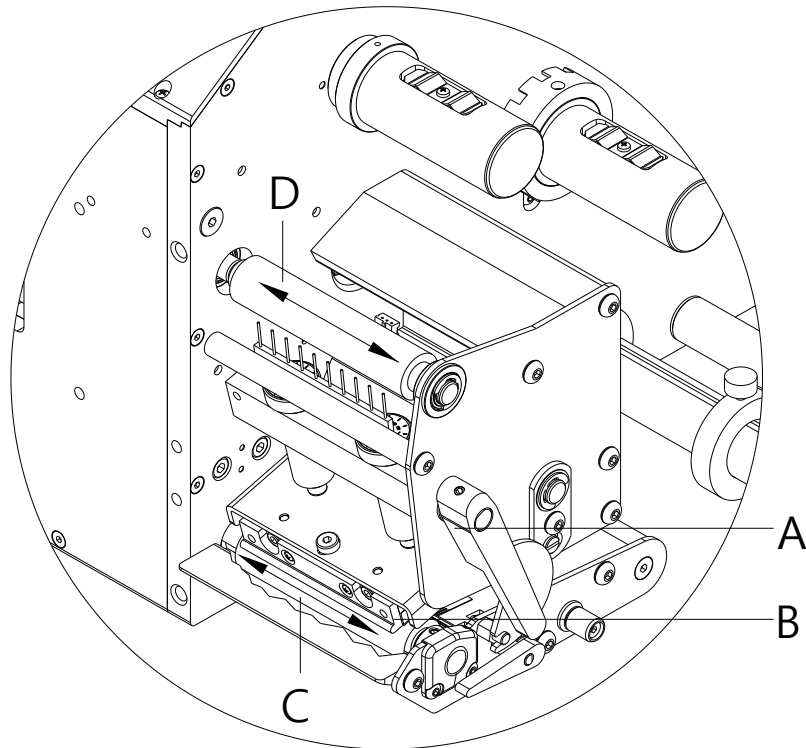

Figure 22
1. Turn the lever (A, Figure 22) anticlockwise to lift up the printhead.
6. To move the printhead down, turn the lever (A, Figure 22) in clockwise direction until it locks.
1. Turn the lever (A, Figure 22) counter-clockwise to lift up the printhead.
3. Blow out the photocell (A) with pressure gas spray. Observe strictly the instructions on the spray can!
4. Clean the label photocell (A) additionally with a cleaning card (B) before soaked in pure alcohol. Move the cleaning card from one side to the other (see illustration).